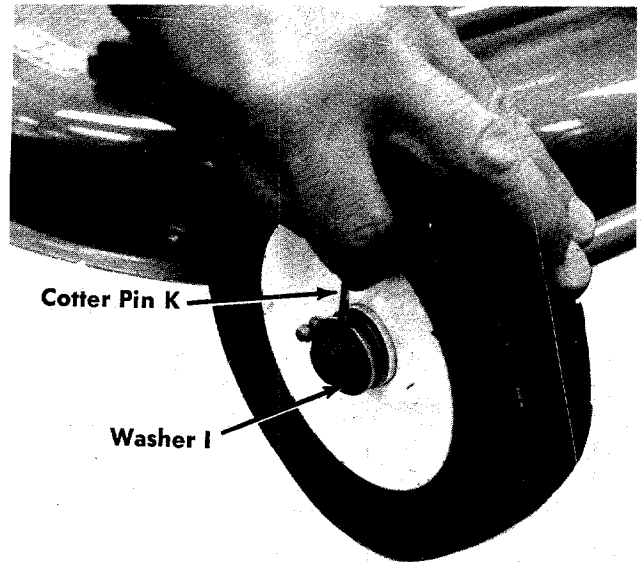

FIGURE 7. DECK WHEEL ASSEMBLY
Step 11. Place the deck wheel over the deck axle and secure it with washer "I" and cotter pin "K". See figure 7.